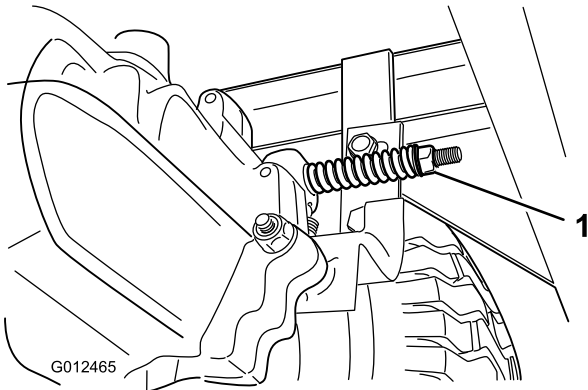

Figure 36
The brake is located on the right side of the rear axle, inside the rear tire (Figure 36).
3. Turn the brake adjusting nut clockwise until you cannot push the machine (Figure 36).